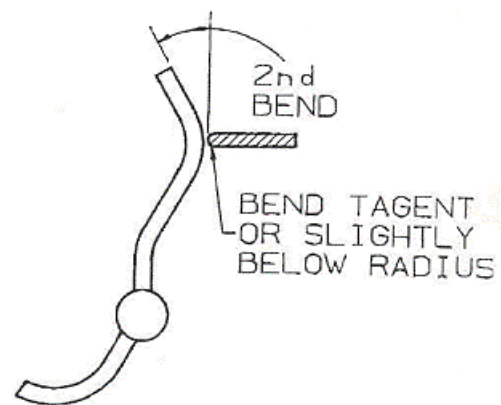

Figure 3-15. S&K pin Adjustment if reading is low at 60 mmHg.
22. Remove the test pointer and test dial. Position the calibration tool over the adjusting pin and push it down to the cross shaft. Lift the tool approximately 1/16 inch and bend the pin approximately 15 degrees. See Figure 3-15. While maintaining this position, lift the tool to point where the pin makes contact with the gear sector. Bend the pin down 30 degrees. Remove the tool and release the gear sector. Check for gear sector starting position as defined previously. Adjust if necessary. Re-assemble the test dial and test pointer. Recheck the span and adjust as necessary prior to inspection at the intermediate points.